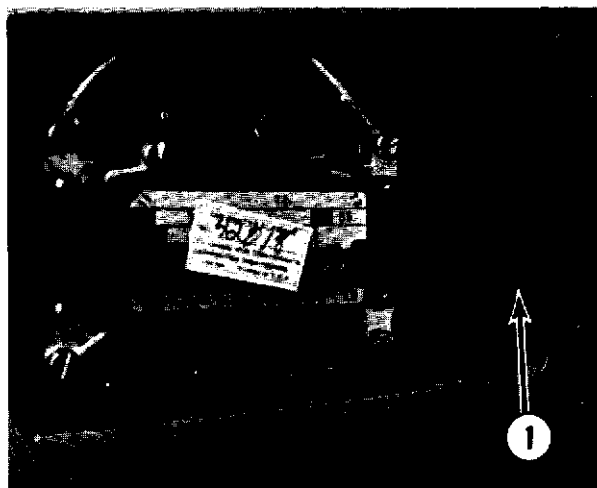

Fig. 8-8
- D. Remove the motor mounting bolt (1, Fig. 8-8) located behind the switch plate.